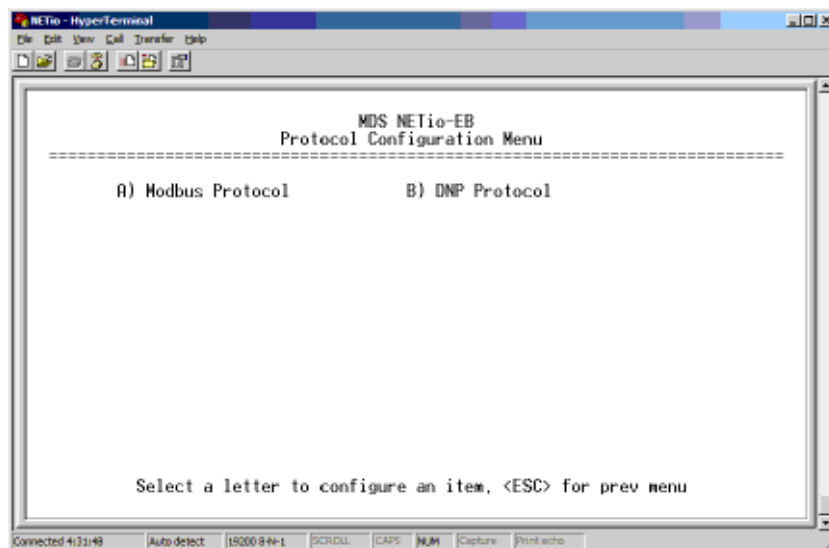

Figure 6-29. Protocol Configuration Menu
2. In the Protocol Configuration Menu shown in Figure 6-29, select item **B) DNP Protocol**.